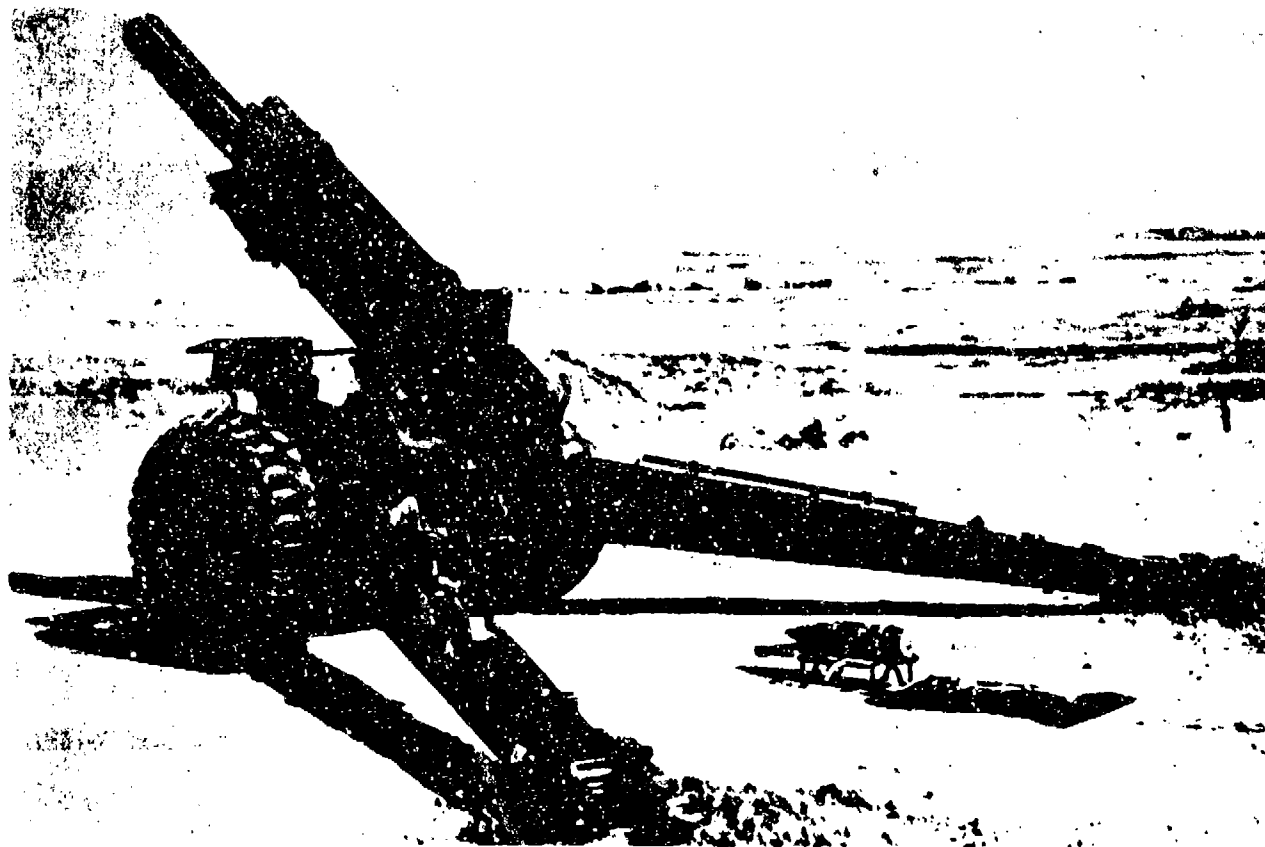

Figure 1-10. 155-mm howitzer M114A1/A2.
c. 155-mm Howitzer M114A1. The following data pertain to the 155-mm howitzer M1141 (fig 1-10):